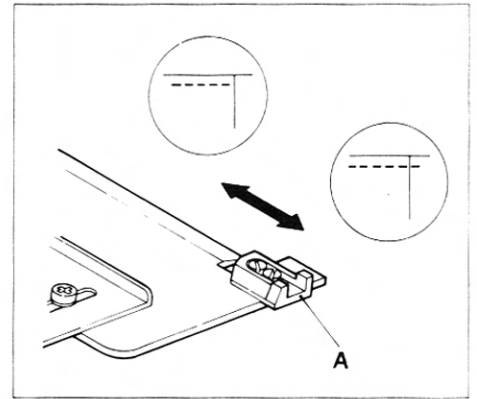

Figure 1a
1. Position of Sewing Finish (Figures 1a, 1b and 2)